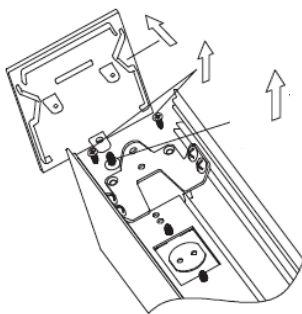

Fig. 4.1
2. Remove the end cap and side plate. (Fig. 4.1)